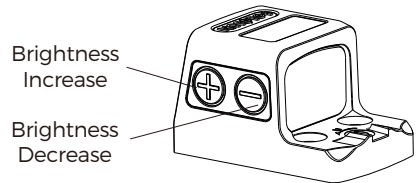

Fig 8
- 1. Power ON:** Momentarily press either brightness button ("+" or "-") to turn on the sight. (See Fig 8)